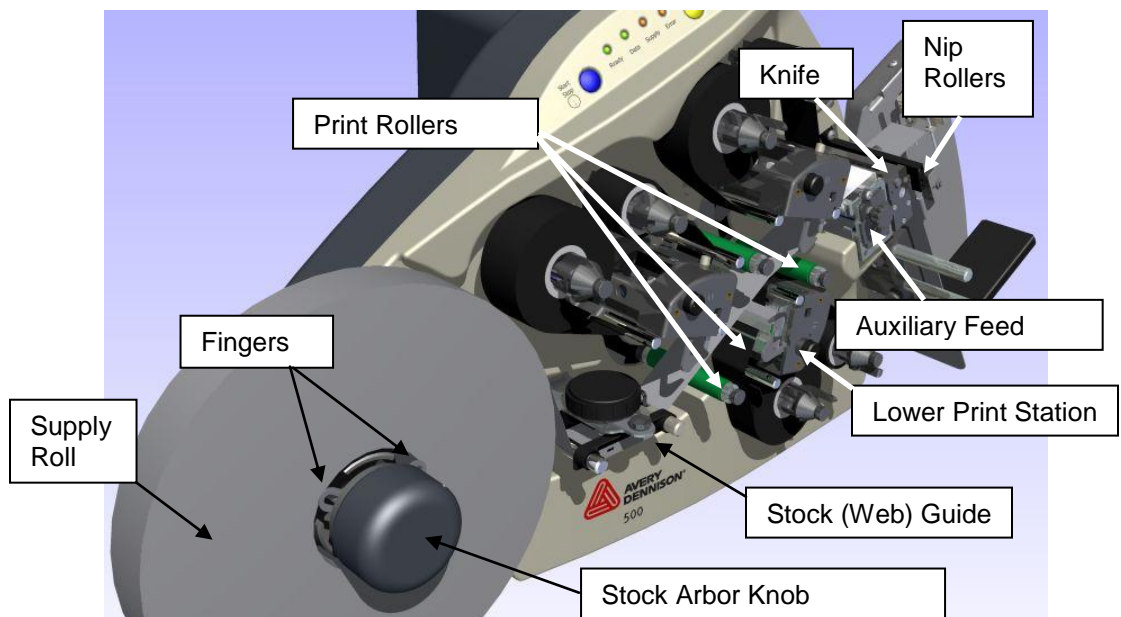

Figure 9: Tape Supply Through Print Stations (Gen 2 shown)
Before loading a roll of stock, you will need to be familiar with the following parts of the SNAP 500 printer (Refer to Figures 9 and 10).
5. Slide the stock roll onto the Stock Arbor (see Figure 9).